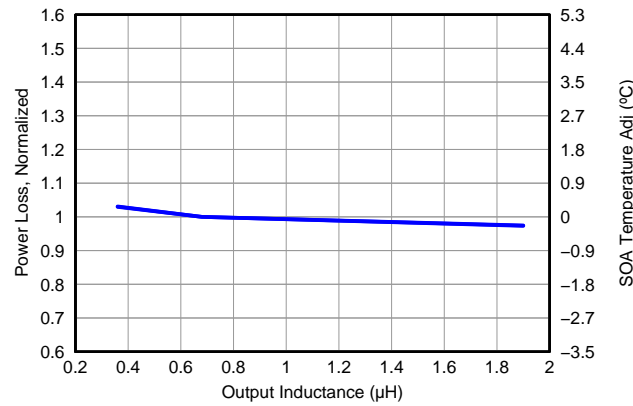

Figure 9. Normalized Power Loss vs Output Inductance
- Normalized power loss for output inductor ≈ 1.05 (Figure 9)
- SOA adjustment for output inductor $\approx 0.45^\circ\text{C}$ (Figure 9)